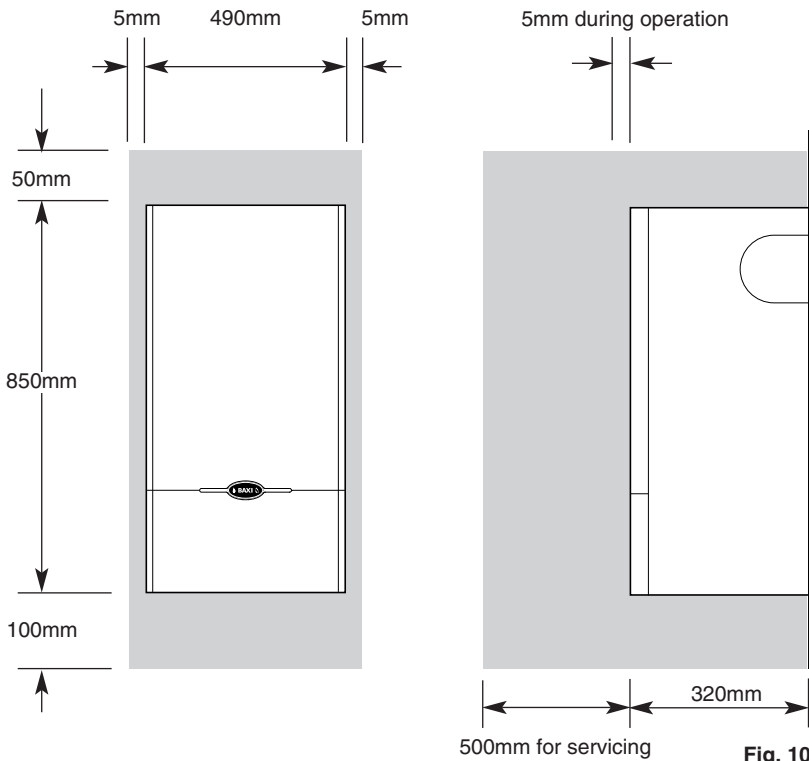

Fig. 10
4.1 Clearances around the boiler (Fig. 10)